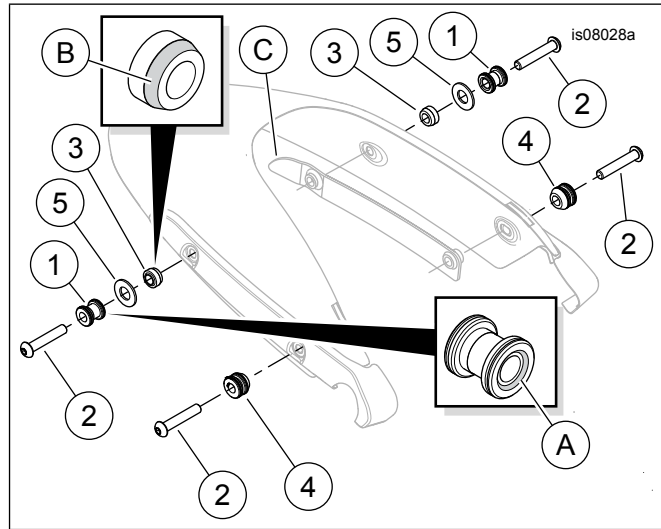

Figure 3. Service Parts, Docking Hardware Kit
See Figure 3 and Table 1.
1. See Figure 3. Remove and discard the **rearward** fender support screw.
2. Get a wide docking point (1), screw (2) and docking point spacer (3) from the kit.
3. Install the docking point, countersunk end (A) last as shown, onto the screw threads. Install the docking point spacer, tapered end (B) last, onto the threads.
4. Install the screw through the fender support, fender and into the fender mounting spacer (C). Tighten finger-tight.
6. Get a narrow docking point (4) and screw (2) from the kit.
9. Install the screw through the fender support, fender and into the fender mounting spacer (C). Tighten to 54.2 N·m (40 ft-lbs).
- b. See Figure 3. Remove the assembled screw (2), wide docking point (1) and docking point spacer (3) from the rear docking point position on each side.
- d. Rotate the docking points 180 degrees. Install the docking points, countersunk end (A) **first**, onto the screw threads.
- e. Get two spacer washers (5) from the kit. Install a spacer washer onto the threads of each screw.
- f. Install the docking point spacers, tapered end (B) last, onto the threads.
- h. Install the screws through the fender supports, fender and into the fender mounting spacers (C). Tighten screws to 54.2 N·m (40 ft-lbs).